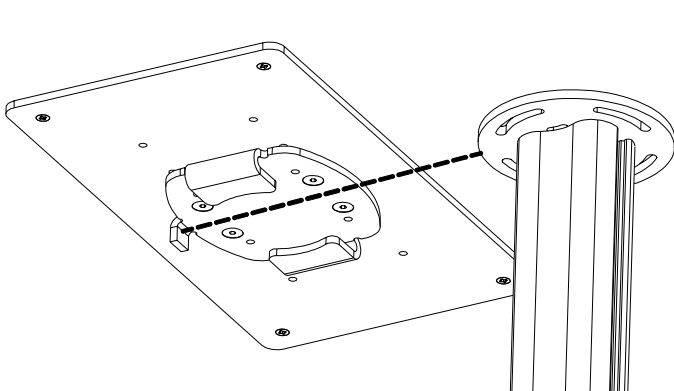

FIGURE 1
First slide pole assembly onto mount clip as shown in **FIGURE 1**. The secure both plates together with washers (EE) and screws (FF) as shown in **FIGURE 2**.